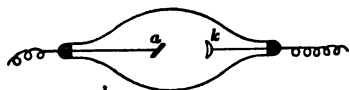

FIG. 228
**346. Kathode Rays.**— The *Crookes tube* is shown in Fig. 228. Two wires are sealed into a glass tube, from which the air has been removed till only one millionth